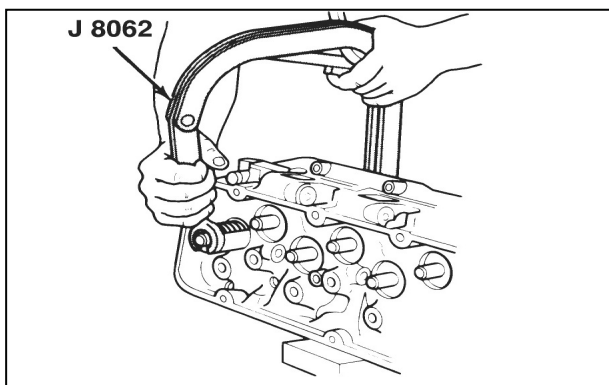

Figure 12-48 Compressing Valve Springs
Figures 12-48 and 12-49
1. Compress the springs with J 8062 (figure 12-48).